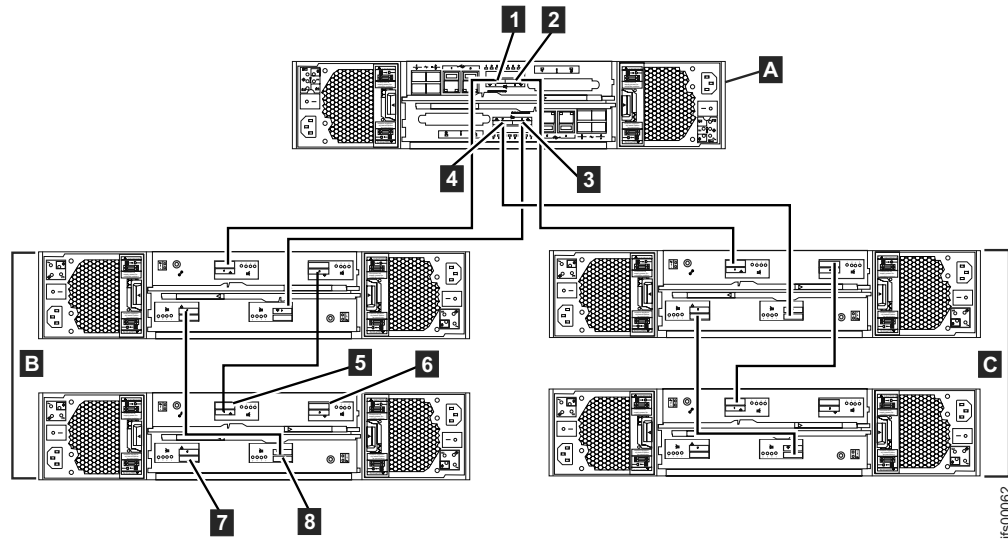

Figure 34. Internal cabling connections between the control enclosure (A) and the expansion enclosures (B & C).
The following table refers to Figure 34 on page 45.
1. Review Table 15 and the figures before attaching the SAS cables. The table below refers to Figure 34.